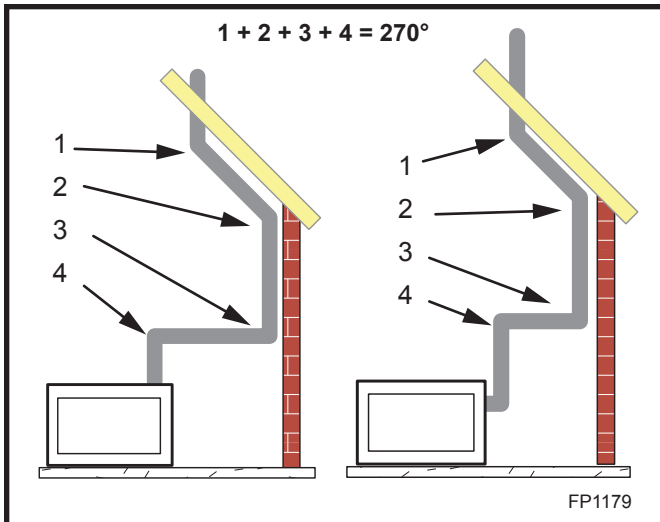

Fig. 42 Maximum elbow usage.
- Two sets of 45° elbow offsets may be used within the vertical sections. From 0 to a maximum of 8' (2.5 m) of vent pipe can be used between elbows. (Fig. 42)
- The maximum angular variation allowed in the system is 270°. (Fig. 42)